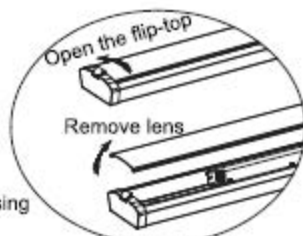

Figure 1A
Step 1: Open the flip-top on end-cap,remove the lens directly.(Fig.1A)